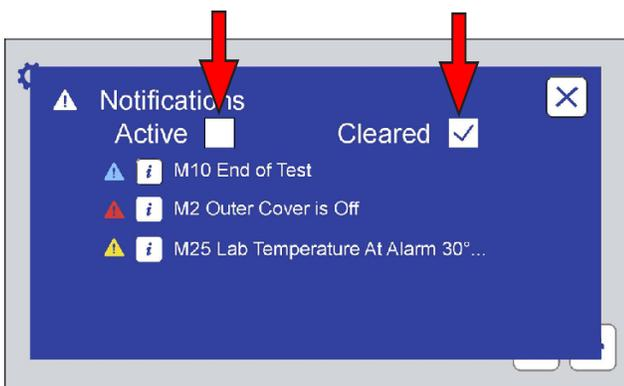
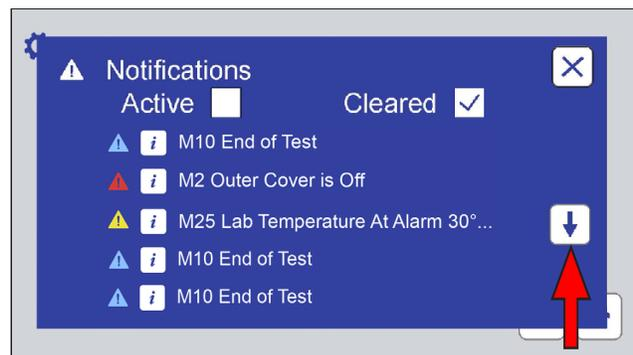

Figure 11.5c: Touch the Active or Cleared check box to view active or cleared notifications.
Figure 11.5d: If there are more notifications than can be displayed on one screen, scroll button(s) will be displayed to move down or up the notification list.
- “Active” and “Cleared” notifications are listed separately, in chronological order, most recent at the top of the list (Figure 11.5c, Figure 11.5d).